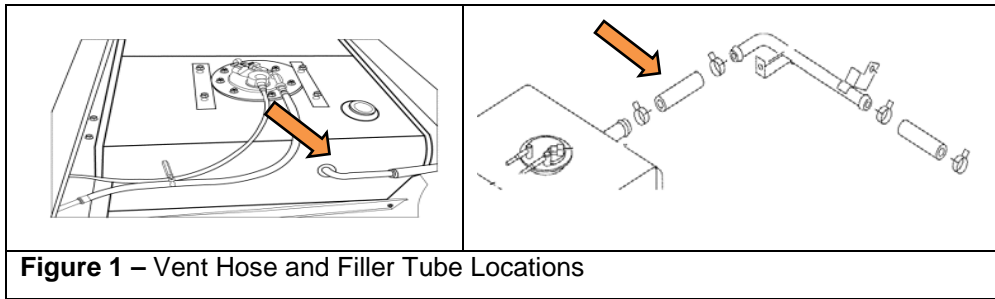

Figure 1 – Vent Hose and Filler Tube Locations
7. Disconnect and remove the vent hose (including hose clamps) at the fuel tank and discard (See Figure 1).
8. Disconnect and remove the filler tube (including hose clamps) at the fuel tank and discard (See Figure 1).